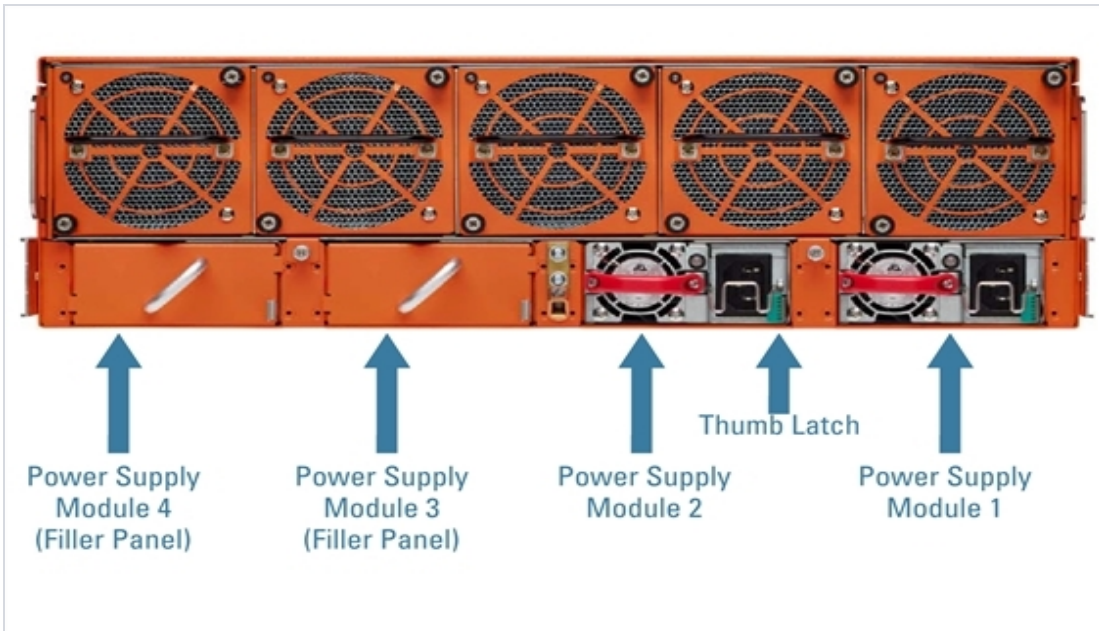

Figure 5: Power Supply Modules (AC Version Shown)
3. Carefully slide the first PSM into the matching receptacles at the lower rear of the node (Figure 5: Power Supply Modules \(AC Version Shown\) on page 56). Push gently to seat the PSM firmly in the chassis until the thumb latch snaps into place.
NOTE: If using two PSMs, leave filler panels in as shown in Figure 5: Power Supply Modules \(AC Version Shown\). The filler panels aid in air flow distribution. If a PSM fails, leave it in the chassis.